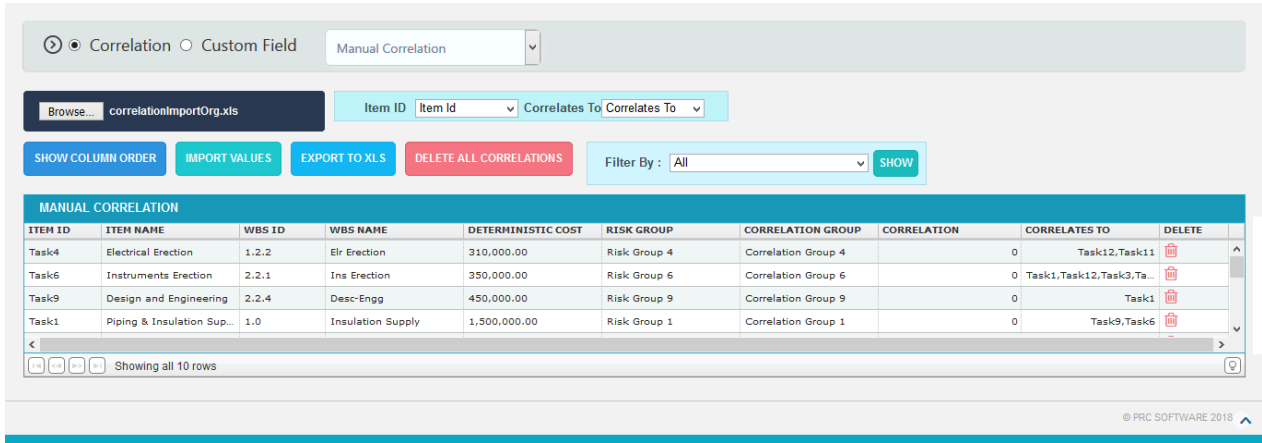

Figure 2.55
4. Map the fields and click **IMPORT VALUES** button. (Figure 2.55)